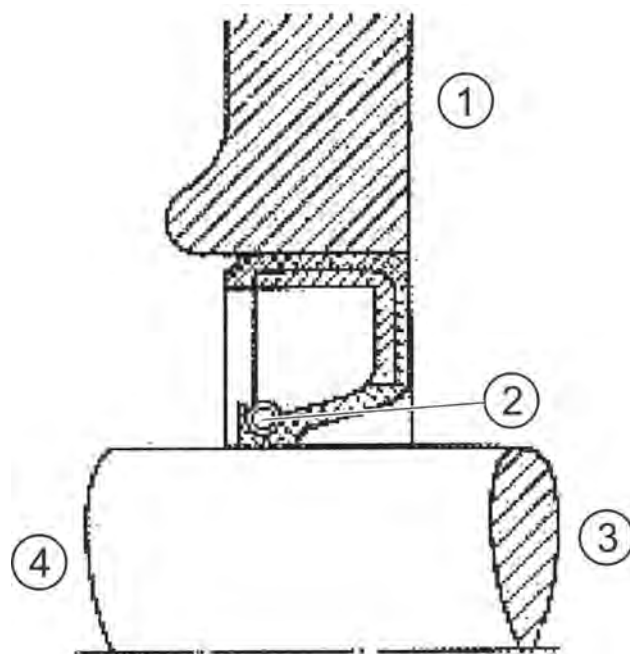

Figure 6: Installation position of a rotary shaft seal without limit stop
8. If the locating bore does not have a shoulder or retaining ring as a contact surface (e.g. on the damper side of an in-line engine), fit the rotary shaft seal after the stop on the finished plane face (Figures 6 and 7).